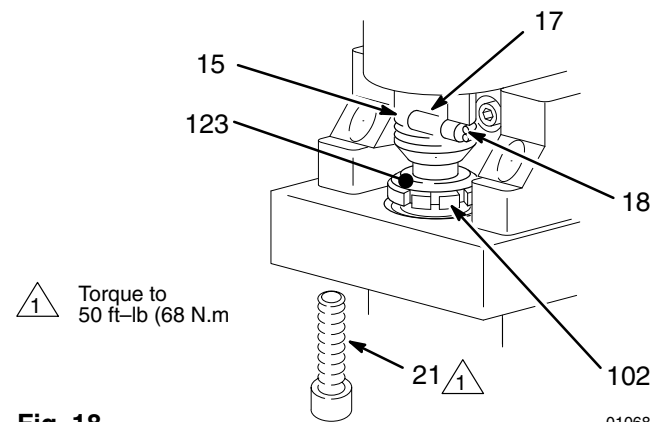

Fig. 18
- a. Remove the pump connecting rod pin (17). See Fig. 18, page 20.
Be sure the retaining spring (18) is firmly in the groove all the way around, to prevent the pin (17) from working loose due to vibration. See Fig. 18.